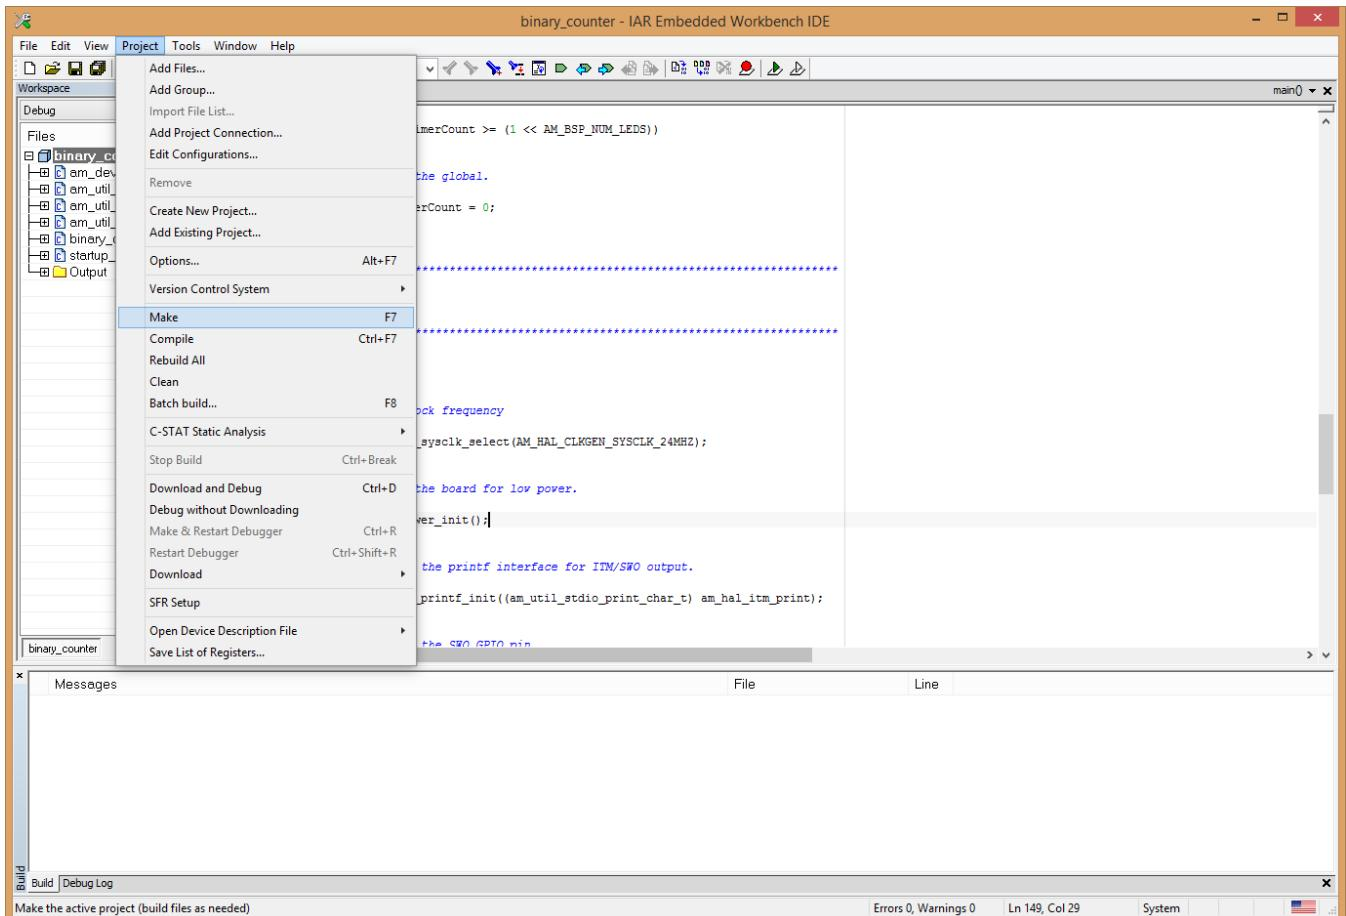

Figure 56. Build IAR Project for example “binary\_counter”
- Build the projects at Project→Make as shown in the figure 56.